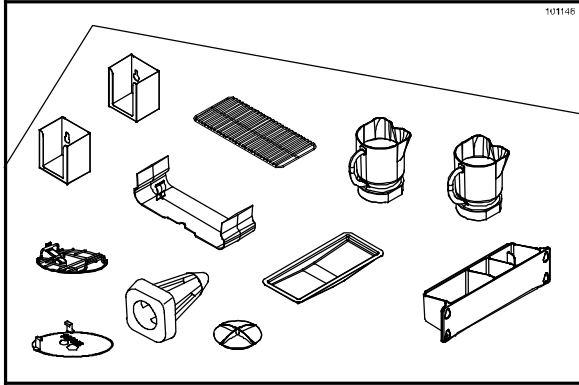

Figure 70
- Remove the following parts and take them to the 3-compartment sink for cleaning: blender pitchers, skirt, syrup rail, rinse station assembly (grate, strainer, and actuator), pitcher drying station (grate and drip pan), lid holders, whipped cream holder and whipped cream holder cover. (See Figure 70.)